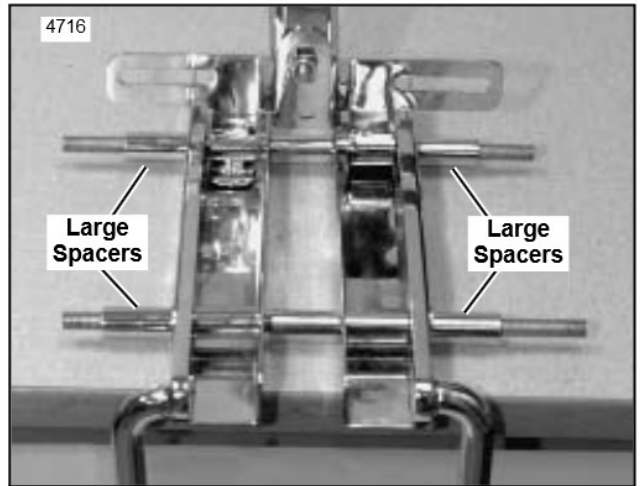

Figure 5. Install Outside Spacers
- See Figure 5. Slide the four remaining spacers down each end of the rod (front and rear) until they contact the outboard side of the inner channels.